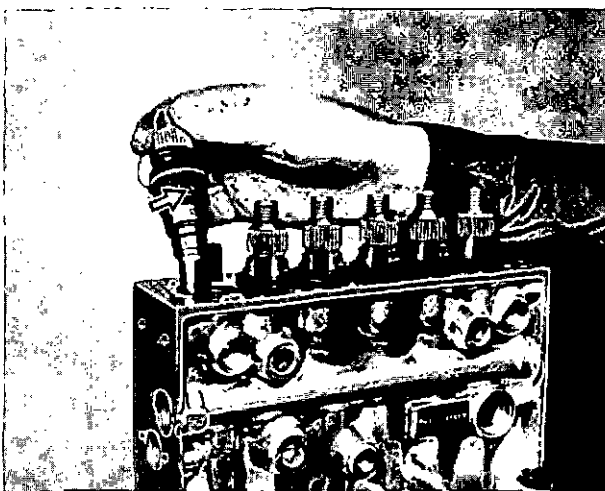
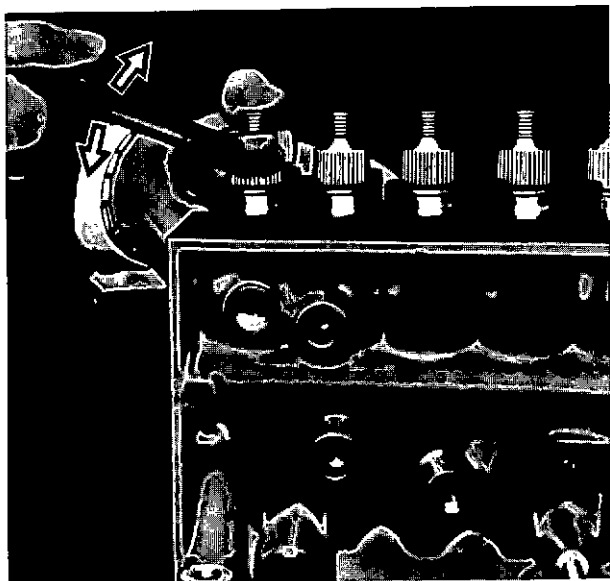

Fig. 27 Inserting barrel/delivery valve assembly.
Fig. 28 Easing assembly into place.
5. Insert the barrel/delivery valve assemblies, each with the drilling for the flange bushing peg (arrowed, fig. 27) towards the pump rack. Ease the units into place by gentle downward pressure and rocking, using ring spanner 1 687 950 525 (fig. 28). Fit the plain washers, spring washers and nuts, finger-tight; position each assembly with its securing studs at mid-point of the adjusting slots and tighten the nuts evenly to between 39 and 44 Nm (29 and 32 lbf. ft.).